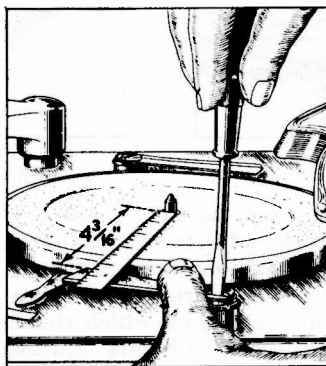
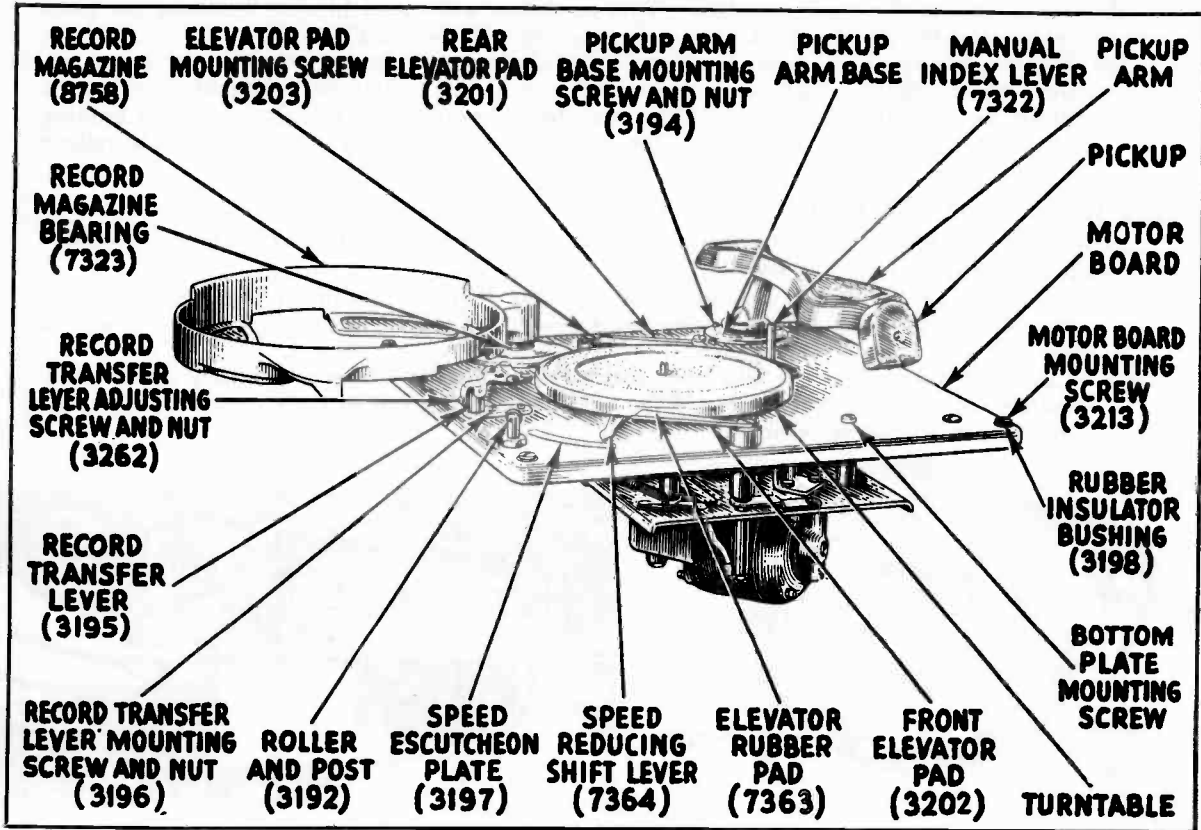

Figure 3—Adjusting elevator pad
Figure 16—Top view of mechanism showing parts
After the instrument has completed one record changing operation, a ten inch record should extend about three-quarters way over each elevator pad. If this condition does not exist, an adjustment can be made by means of the screws that hold the pads in position. A pair of pliers heavily padded with cloth or other soft material should be used to hold the elevator shafts while loosening and tightening the screws. The distance from the closest part of either pad to the edge of the spindle is approximately $4\frac{3}{16}$ ". Figure 3 shows the method of making this adjustment.
- (a) Improper horizontal adjustment of elevator pads. The elevator pads Figure 16, should be so adjusted that the inside of the pad flange is $4\frac{3}{16}$ " from the nearest side of the turntable spindle. See Figure 3. Loosen the screw on top of the elevator shaft, move the pad to its correct position, holding both the pad and the elevator shaft in position and tighten the screw. Care should be observed that the ridge in the elevator shaft is not turned against the slot in the elevator shaft actuating lever so as to cut the latter. Grip the shaft with padded pliers while this adjustment is being made in order to prevent the shaft from turning. If for any reason the elevator pads have been removed, always place the one with the rubber surface toward the front of the mechanism when replacements are being made.